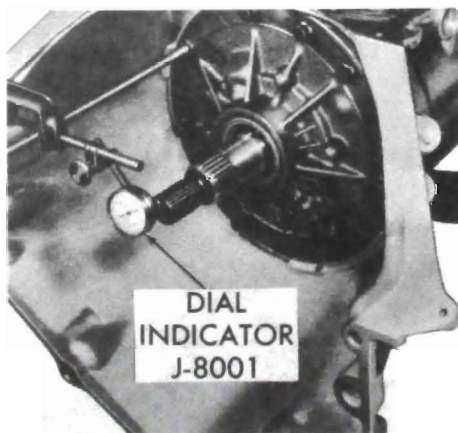

Figure 76-765
22. Check front unit end play as follows: See Figure 76-765.